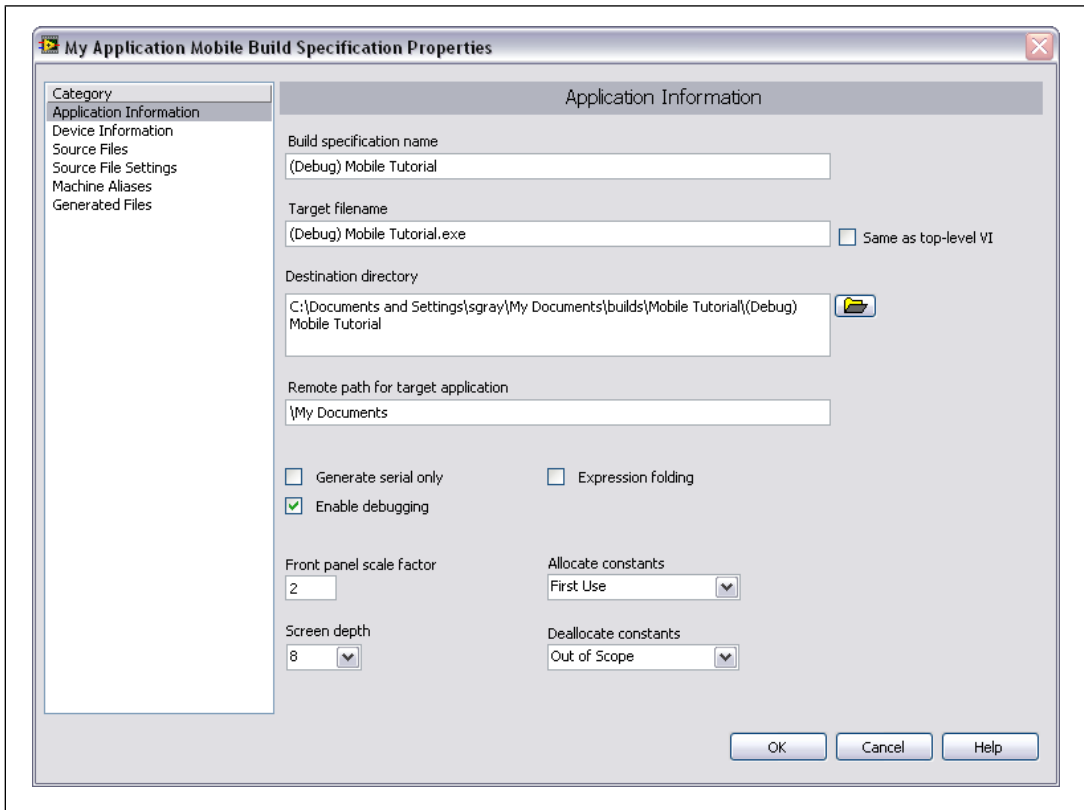

Figure 7. Creating the Debugging Build Specification
5. Place a checkmark in the **Enable debugging** checkbox to generate debugging information when you build the VI into an application, as shown in Figure 7.